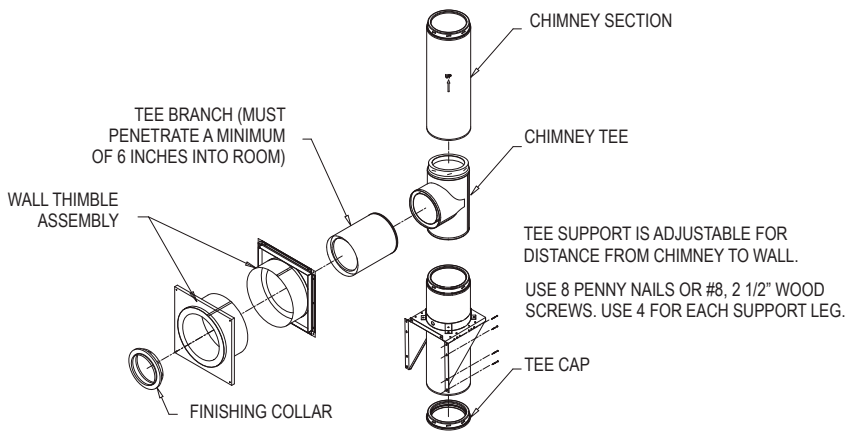
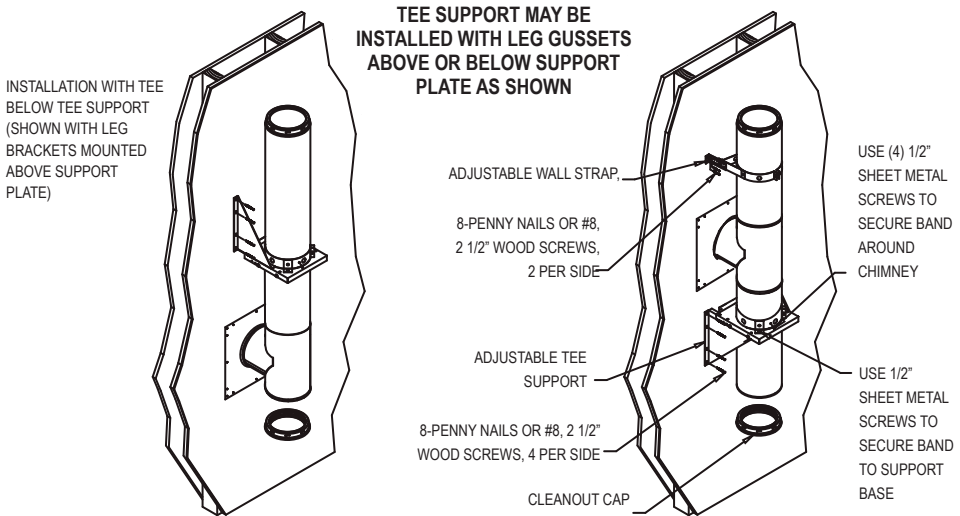

Figure 24
Figure 25
Tee-Supported installations are used when passing through a wall to a chimney. The Tee Support can hold a maximum of 60' of DuraTech Chimney (**Table 2**). The various support components are adjustable in length from the wall to better fit your installation. There are two options when installing a Tee-Supported installation: the Tee Support above the Tee, or the Tee Support below the Tee. The required parts and general configuration are as shown in **Fig.24, 25, 26 and 27**.
Thimble. Center the back portion of the Wall Thimble (with shield inside wall) in the framed opening of the outside wall (**Fig.24**). Be sure to seal the flange of the Wall Thimble around the wall by using a non-hardening waterproof sealant. Attach the back portion of the Wall Thimble to the outside wall using at least (4) 8-penny nails or (4) #8, 1-1/2" wood screws. There must be a continuous shield within the wall. If the two halves of the Wall Thimble do not overlap, a field-fabricated extension constructed out of 26-gauge galvanized or stainless steel is needed. Non-combustible insulation that adheres to the specifications outlined on page 4 may be inserted into the Wall Thimble. Do this by wrapping an insulation blanket around the pipe between the thimble sleeves. Ensure the butting edges of insulation are pointing downward. Smaller pieces of insulation may be used to fill in the corners of the thimble pass-through. Do not compress the insulation more than 25% or you may adversely affect the thermal resistance of the insulation.
4. Install Tee Support: Install the Tee Support on the outside wall. Position Tee Support so that the chimney Tee will be centered inside the Wall Thimble (**Fig.24, 25, 26 & 27**). The Tee Support may be installed either above the Tee or below the Tee (within one pipe section), as seen in **Fig.25**. See **Table 2** for weight bearing values of components. Important: Verify that Tee Support is level, and secure the Support to the wall using (4) #8, 2-1/2" screws for each side. Slide support base over leg brackets to adjust for desired clearance to wall, and secure by tightening bolts (**Fig.24 & 25**).
to insure that Tee is centered through Wall Thimble (**Fig.25**). Use the 1/2" sheet metal screws provided to insure a tight connection between support band and chimney section. Connect support band to support base using the 1/2" sheet metal screws provided (**Fig.25**). Twist lock Tee Cap into bottom of Chimney
used to penetrate through the wall must extend at least 6" into the room (**Fig.24 & 27**). Use high-temperature sealant (500°F) to seal between the Wall Thimble and the Chimney on the outer wall.